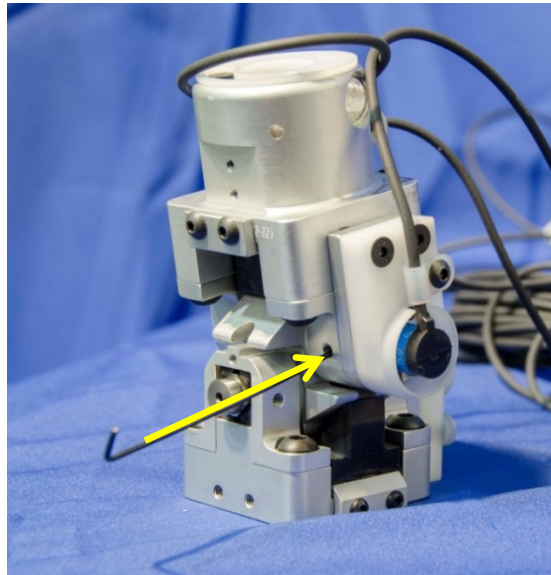

Figure 12-49. Install Y-axis set-screw
- 12.2.2.31 Install an M3 x 0.5 x 3 SHSS against the Y-axis potentiometer through the rear access hole (Figure 12-49).